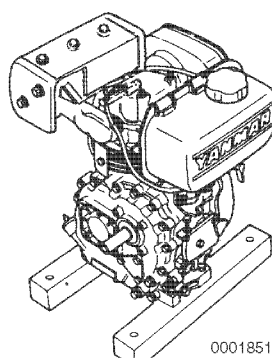

Figure 6-105
17. If equipped, install the fuel tank (**Figure 6-105**).